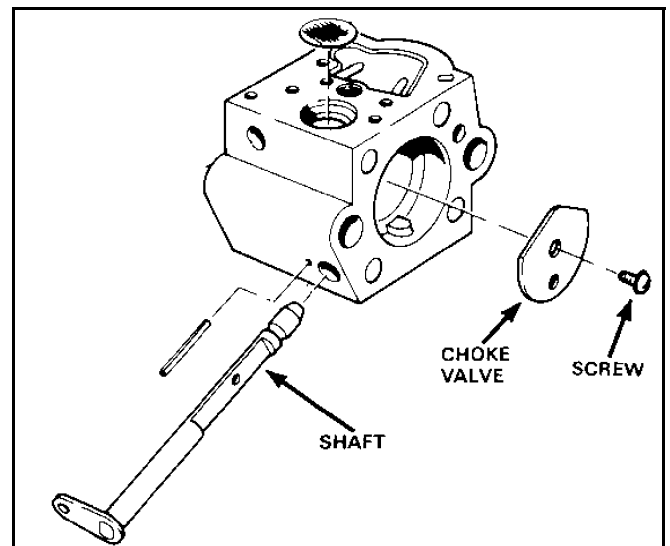

Figure 206
3. Remove the choke valve from the choke shaft assembly (Figure 206).